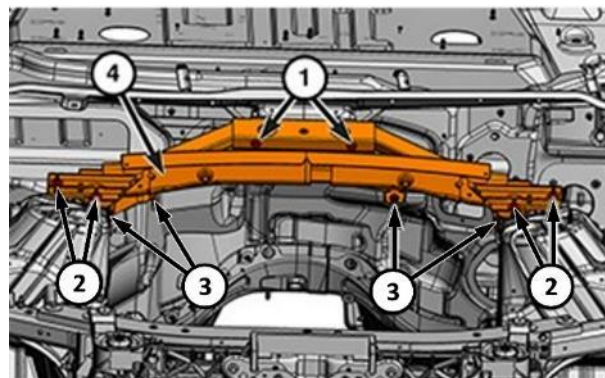

Figure 32 – Upper Cowl Extension
- n) Remove the shock tower brace nuts (2) and the bolts (1) (Figure 32).
- o) Remove the upper cowl extension silencer fasteners (3) (Figure 32).
- p) Remove the upper cowl extension silencer and the shock tower brace as an assembly (4) (Figure 32).
- a. Cowl extension silencer fasteners (3) M6 tighten to 8 N·m (71 In. Lbs.) (Figure 32).
- b. Shock tower brace bolts M6 (1) tighten to 8 N·m (71 In. Lbs.) (Figure 32).
- c. Shock tower brace nuts M6 (2) tighten to 7 N·m (62 In. Lbs.) (Figure 32).